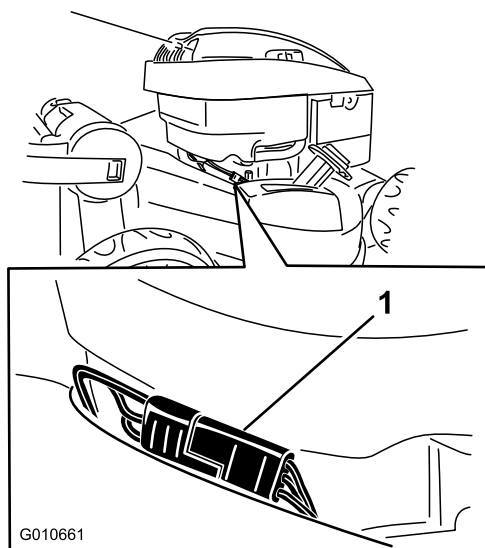

Figure 7
4. Connect the engine connector to the engine as shown in Figure 7.